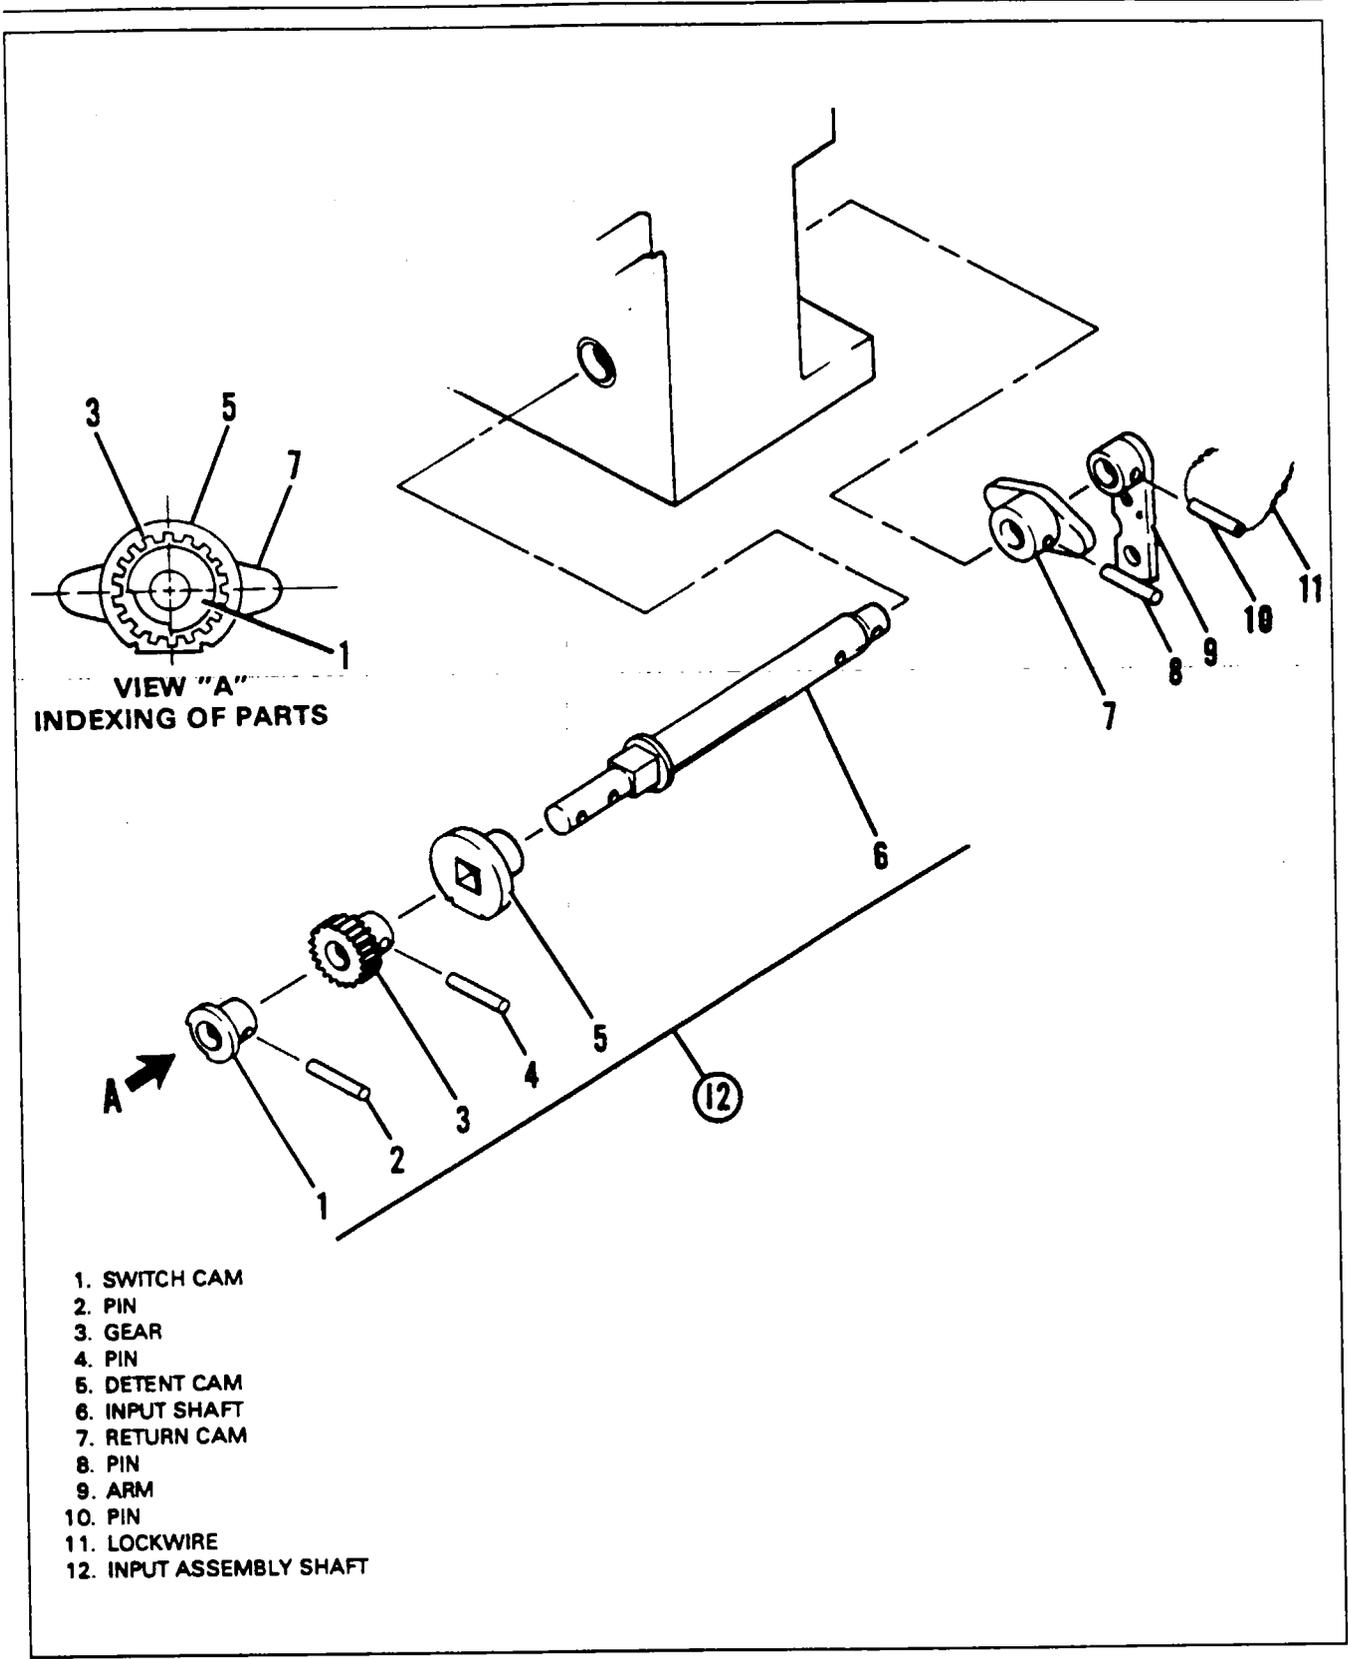

Figure 29-8. Power Pack Handle Release Mechanism - Wiebel
**LANDING GEAR HANDLE-RELEASE MECHANISM.** (Refer to Figure 29-8.)
**POWER PACK HANDLE-RELEASE MECHANISM. (Refer to Figure 29-8.)**
1. If the switch cam, the gear and the detent cam were removed from the input shaft, then the parts must be assembled and indexed as shown in Figure 29-8, View "A."
5. Install the Power Pack control arm on the end of the shaft with the arm pointing down. Align the holes between the shaft and the arm assembly and install the roll pin. Install .041 safety wire through the roll pin and around half of the arm. Pull the twisted end of the safety wire around the other half of the arm assembly. (Refer to Figures 29-8 and 29-9.)